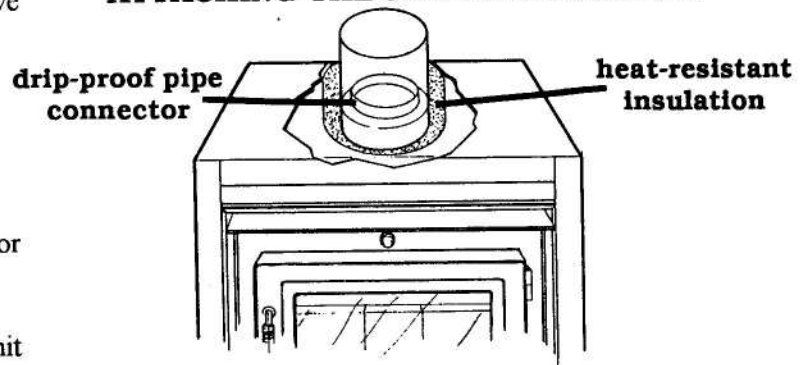

FIGURE 9
Use one layer of insulation for double wall pipe and two layers for triple wall pipe (see figure 9).
(B) Attaching chimney to Gemini XL unit (see figure 9). A solid fuel chimney must make a positive connection to drip proof pipe connector at all points along base of pipe connector for correct installation.